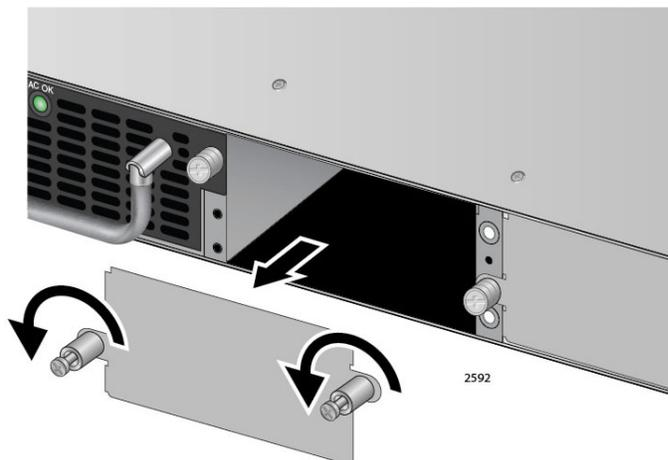

Figure 21. Loosen Screws on Fan Blank Cover
1. Loosen the captive screws on the fan blank cover panel on Fan 1 (left) slot. See Figure 21.